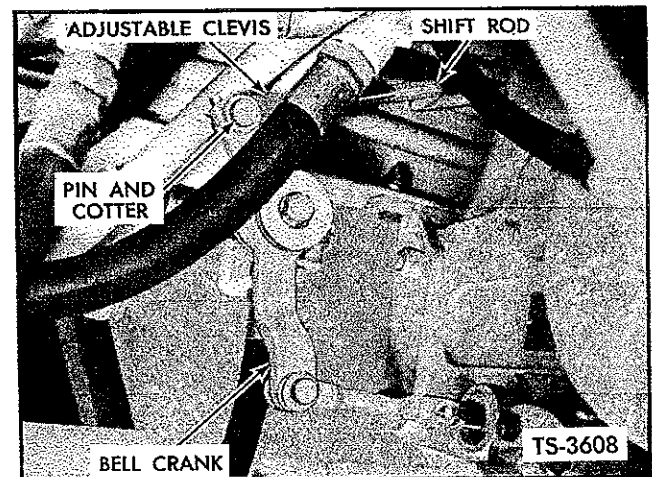

Fig. 36. Adjust Range Shift Lever
1. Loosen locknut on shift rod just forward of transmission on right side of machine. See Figure 36.